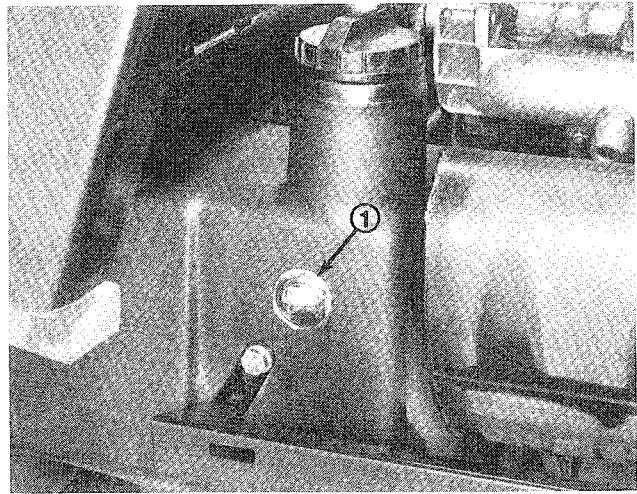

Figure 47
5. With cutting units raised and oil warm, look into sight gauge (Fig. 47). If hydraulic oil is not visible, add enough to raise level to middle (maximum) of sight gauge. To prevent over filling, do not fill if oil is cold. **DO NOT OVER FILL.**